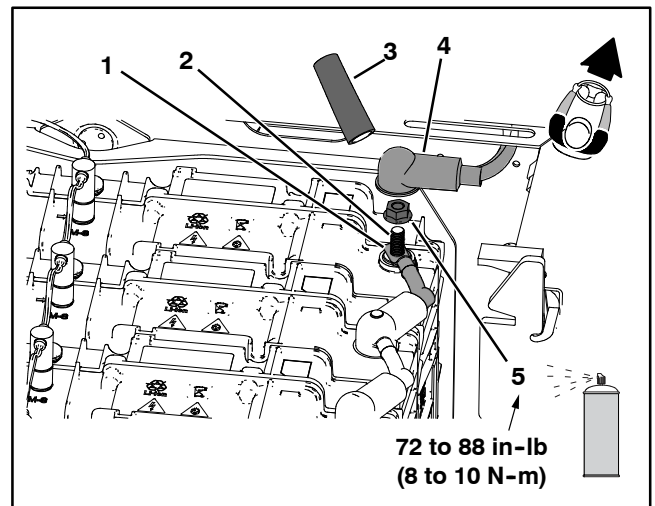

Figure 3
IMPORTANT: To prevent accidentally shorting a disconnected battery cable across other components or tools, insulate the battery cable terminal with a 76 mm (3 inch) length of 1.27 mm (0.5 in) internal diameter rubber hose immediately after disconnecting the cable; refer to Fig. 3.
4. Remove the flange nut and negative (-) battery cable from the battery terminal; refer to Fig. 3.
3. If installed, remove the rubber hose on the negative (-) cable. Install the negative (-) cable onto the negative terminal on the right, front battery. Secure conductors to battery with flange nut and torque tighten the nut from **72 to 88 in-lb (8 to 10 N-m)**; refer to Fig. 3.